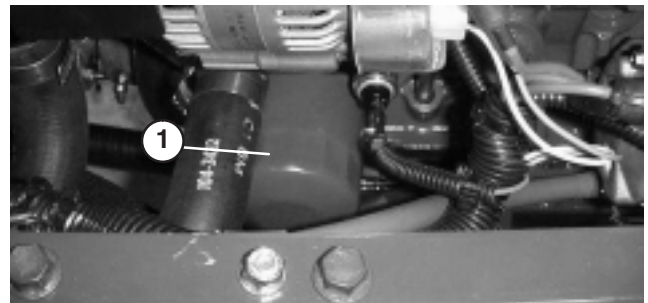

Figure 44
5. Remove and replace oil filter (Fig. 44).